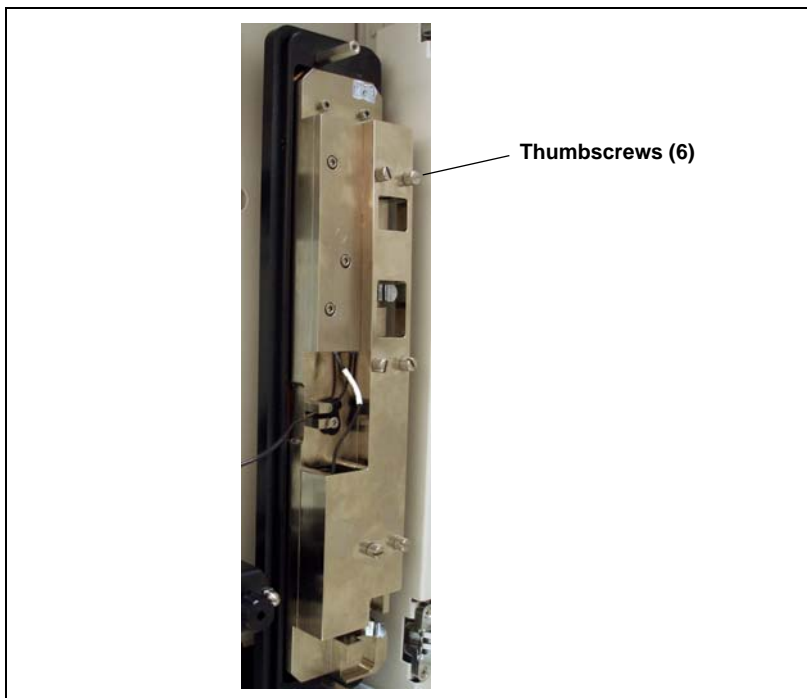

Figure 5-23. ICS-2100 Column Heater Cover Removed
- c. Unscrew the six thumbscrews on the top metal plate (see Figure 5-23) and remove the plate.